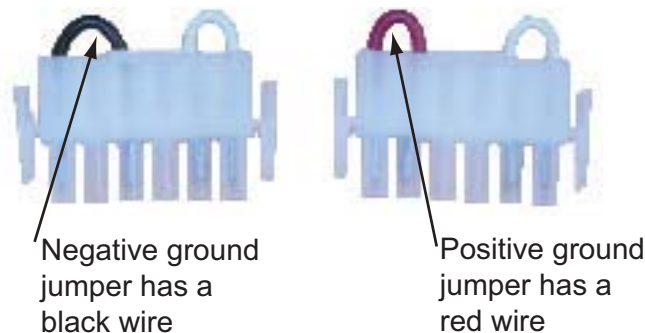

Figure 3-10 Positive and Negative Jumpers
7. Remove the 1A fuse and select the negative or positive grounding jumper included with the inverter (see Figure 3-10).